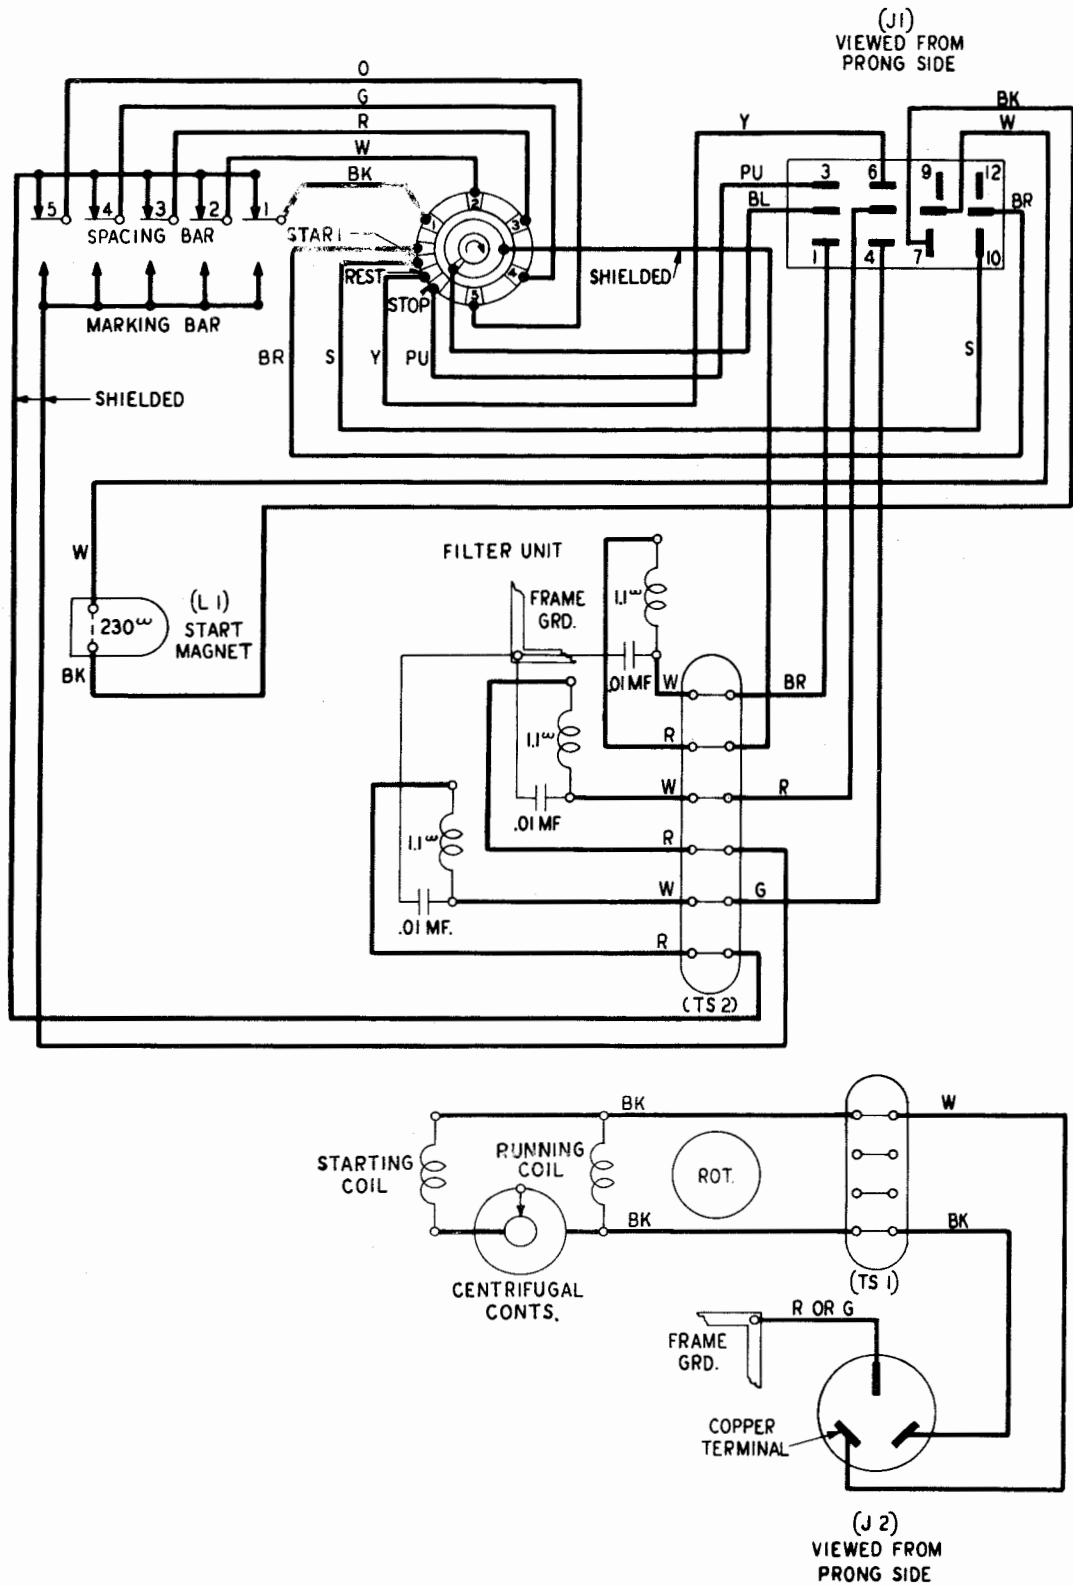

Figure 9 - 14AA Transmitter-Distributor (Synchronous Motor)
1.06 Figures 9, 10, and 11 show the transmitter-distributors used with the 131 teletypewriter subscriber set.